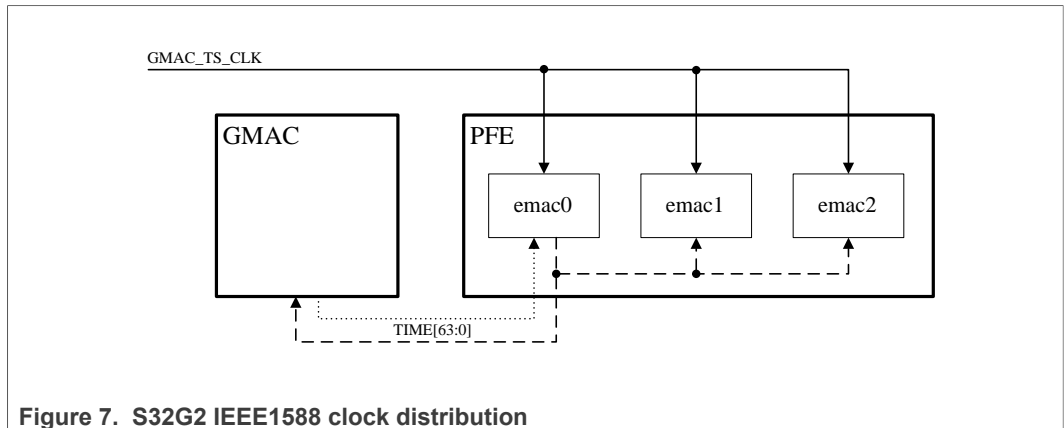

Figure 7. S32G2 IEEE1588 clock distribution
The S32G platform allows multiple clock configurations, as depicted in Figure 7.
See Figure 7, full line.
1. EMAC0 is the time source and feeds GMAC, EMAC1 and EMAC2. See Figure 7, dashed line.
2. Dotted line on Figure 7 represents a limited sharing. GMAC is the time source and feeds EMAC0. EMAC1 and EMAC2 cannot use external clock in this case.
Device tree determines configuration of external time sources in `nxp,pfeng-emacl-ts-ext-modes` property of PFE device node. The listed `PFE_PHYIF_EMAC_` are configured to use external time source. For example, Figure 7 dotted line, following setting represent the limited time sharing: